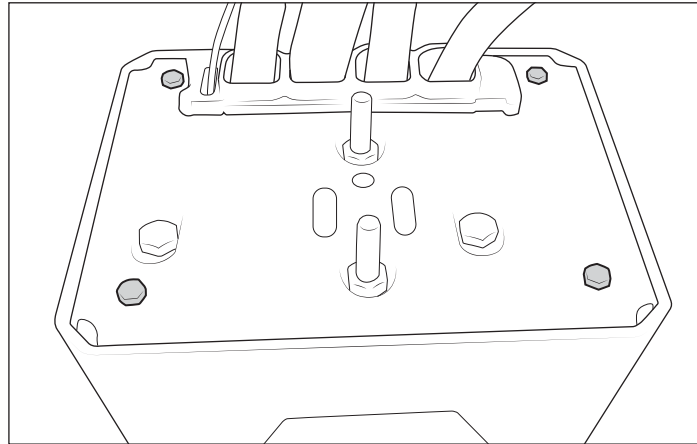

Figure 9
1. Open Warn winch controller by removing QTY 4 bolts on bottom corners of controller (fig. 9).